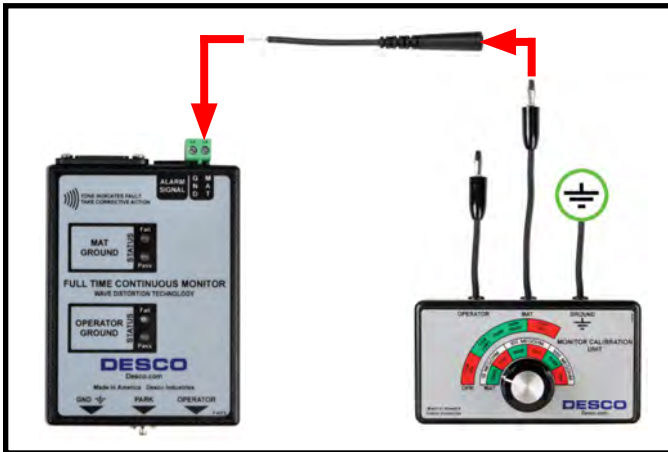

Figure 3. Connecting the MAT test lead from the Monitor Calibration Unit to the Full Time Continuous Monitor
**Step 2:** Connect the included banana jack to wire adapter to the Calibration Unit’s banana plug labeled “MAT.” Insert the wire end of the adapter to the monitor’s green terminal block labeled “MAT” (see Figure 3).